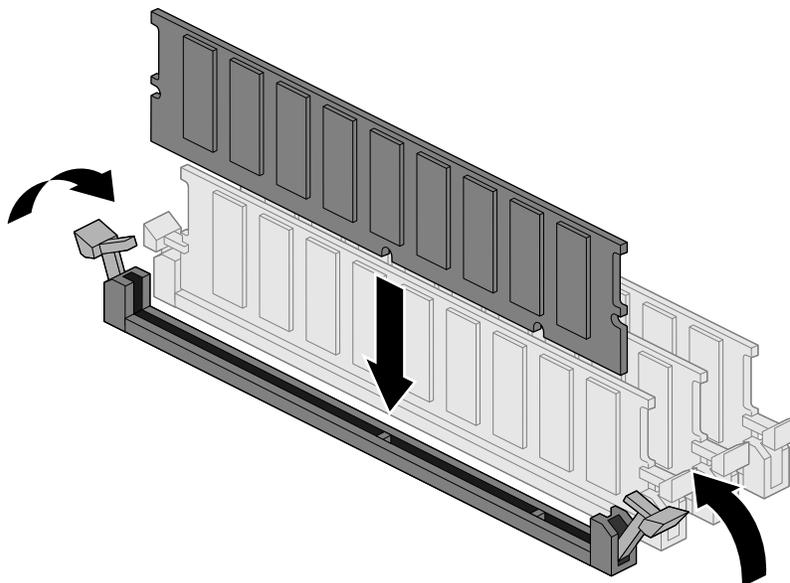

Figure 1 Installing an ECC DIMM
See Figure 1 on page 4 for the location and numbering of the DIMMs. Use these steps to properly install additional DIMMs:
2. Align the two edges at the bottom of the DIMM with the keyed socket. See Figure 1.